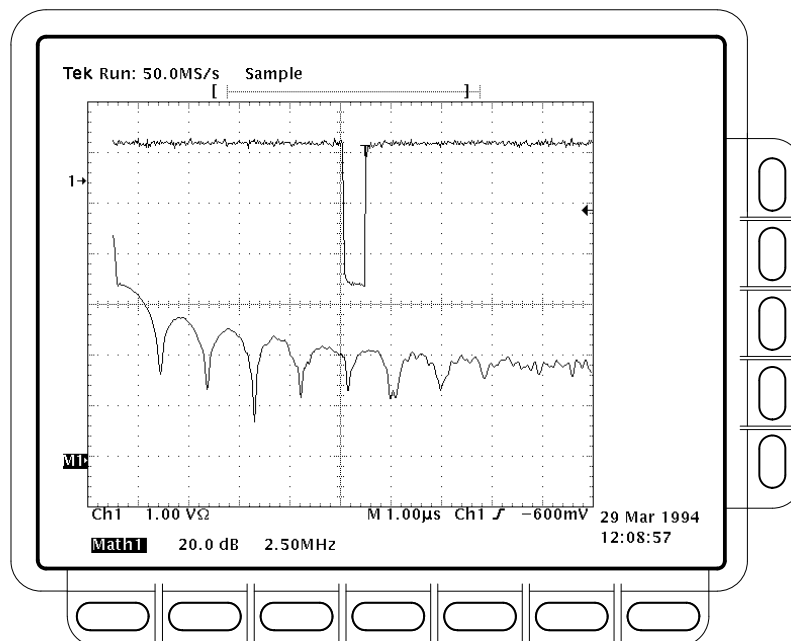

Figure 3–88: FFT Math Waveform in Math1
12. Press **OK Create Math Wfm (side)** to display the FFT of the waveform you input in step 1. (See Figure 3–88.)